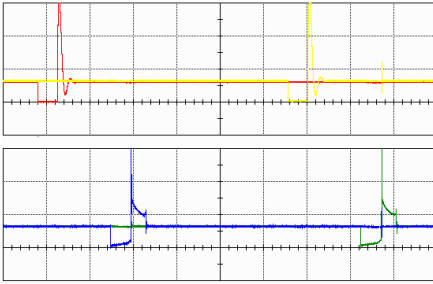

Figure 4.38
- *2 grids (1-2 3-4)*: The main window is divided into two halves, where there are two waveforms displayed in each of them. In the first window there are waveforms 1 and 2 and in the second one 3 and 4. (Figure 4.38)